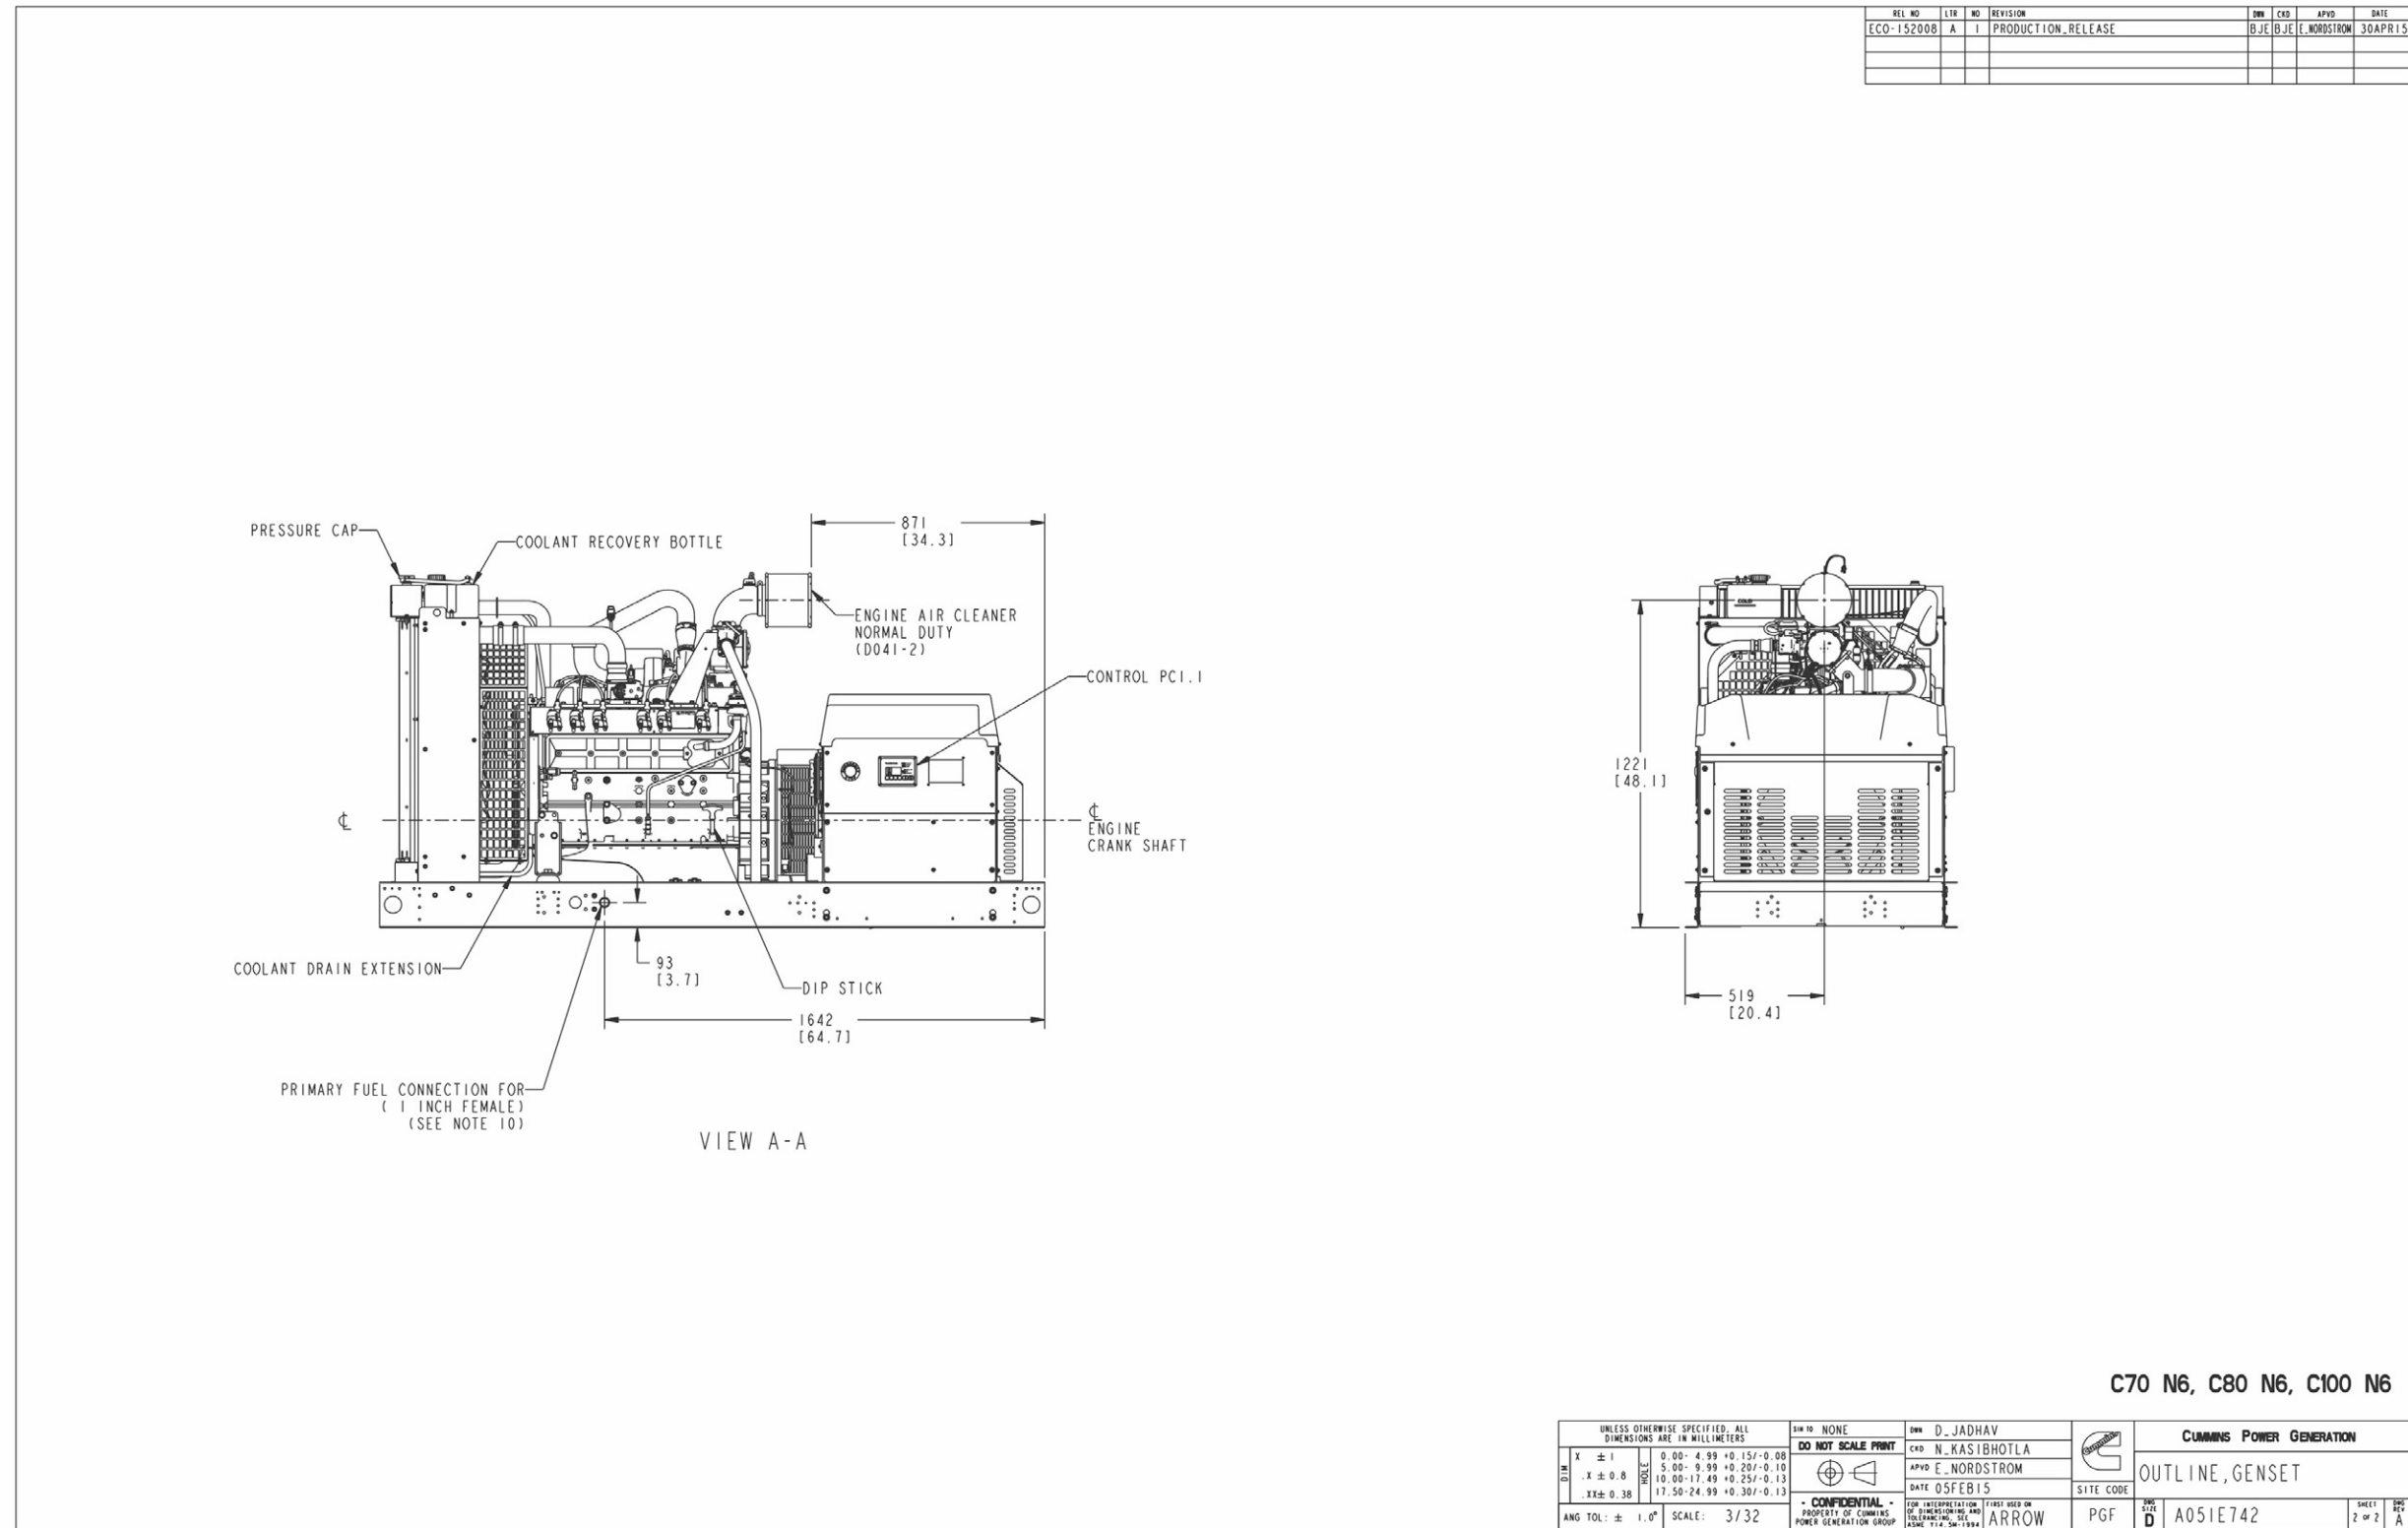

FIGURE 38. GENERATOR SET OUTLINE, 70-100 KW (SHEET 2 OF 2)
- Figure 38. Generator Set Outline, 70-100 kW (Sheet 2 of 2) 110